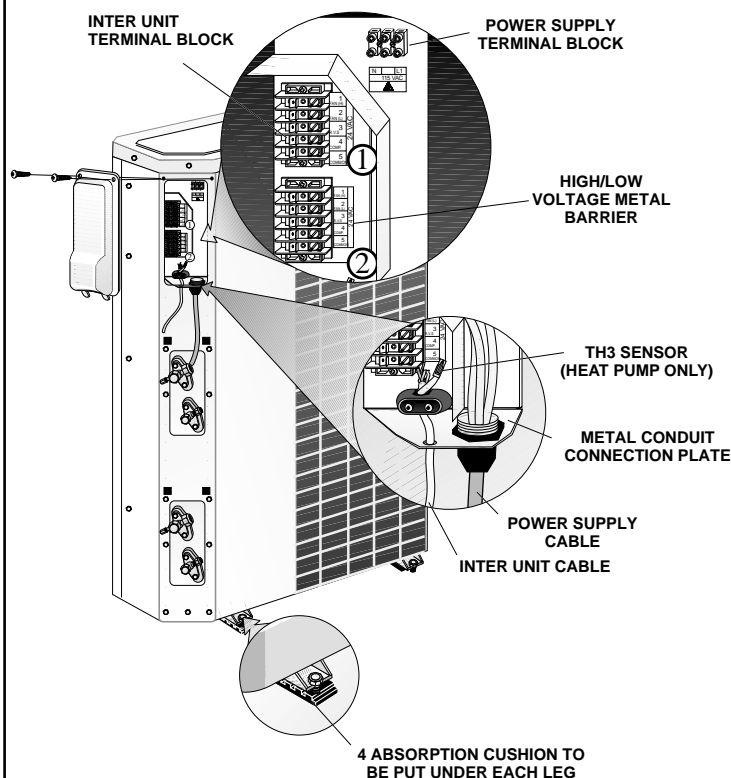

Fig. 12 — Legs Mounting Base and Wiring Outdoor Units Models:
2. Fasten the outdoor unit legs to the mounting base, as shown in Fig. 12. The cushion goes between the legs and the mounting base.